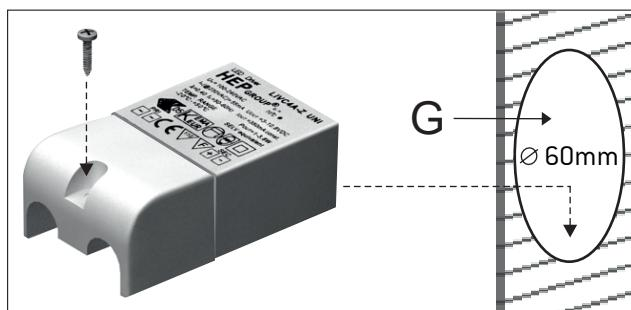

Figure 3
- 3 - Attach again the cover to the driver. Ensure that the hole in the wall (G) measures a minimum of 60mm and leave the driver inside the hole. Figure 3.